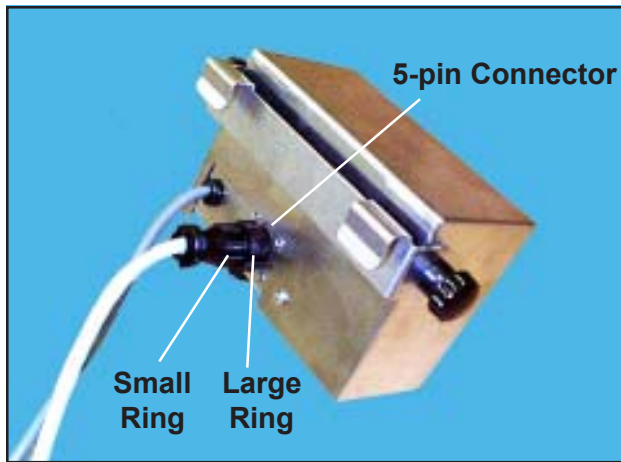

Figure 4. Attaching 5-pin Connector to the Heat Controller
Warning: To tighten or loosen the 5-pin connector, **ALWAYS** turn the large ring (Figure 4). **NEVER** turn the small ring. Trying to turn the small ring can tear the pins out of the connector.
8. Making sure that the pins and holes line up correctly, plug the 5-pin plug into the socket in the back of the heat controller and secure the connection by turning the large ring clockwise (Figure 4).